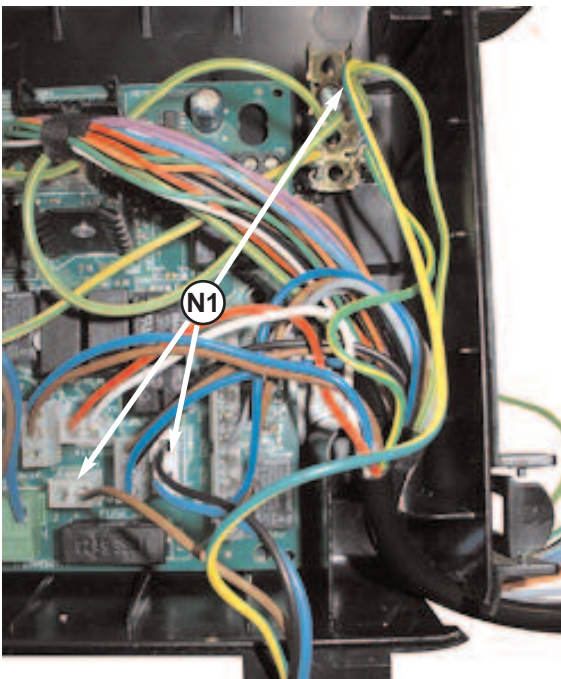

Fig. 18.42
3. Disconnect electrical connections “N1” on the P.C.B. (see Fig. 18.42) ;